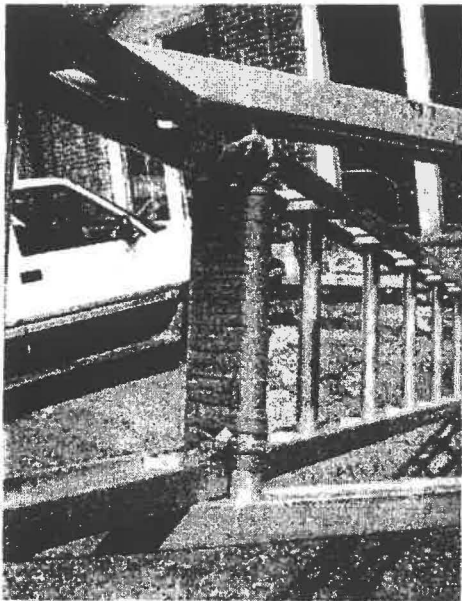

Figure 7-4
- Lash the two top rungs together (Figure 7-4). This is accomplished using one 12' piece of webbing. Form a round lash making sure rungs are as close as possible, the beams are locked together and the lashing is tight and secure.